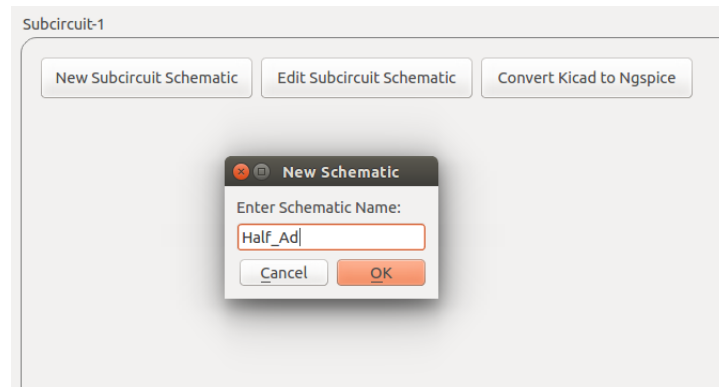

Figure 8.2: New Sub circuit Window
- After opening the Subcircuit tool, click on **New Subcircuit Schematic** button. It will ask the name of the subcircuit. Enter the name of subcircuit (without any spaces) and click **OK** as shown in Fig. 8.2.